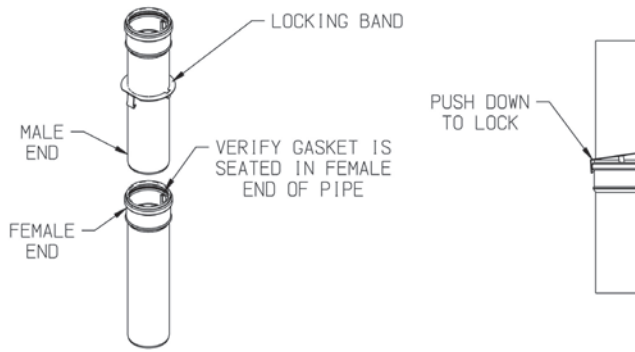

Figure 19: Locking Band Clamp Installation, M&G DuraVent or Centrotherm InnoFlue
- c. Use locking band clamps at all vent pipe joints. See Figure 19 or Figure 20 for locking band clamp installation.